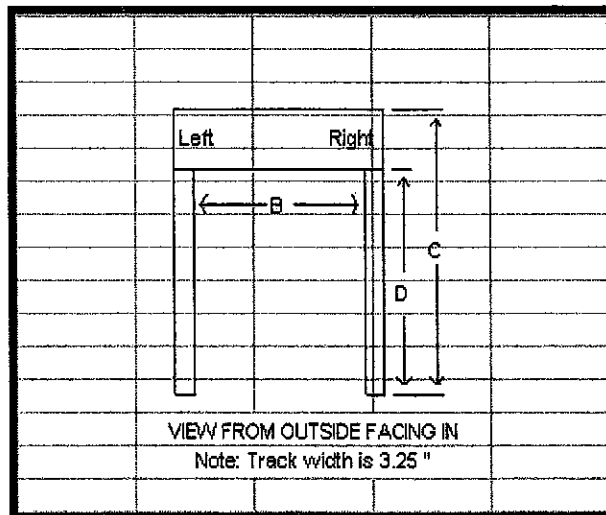

Figure 7: Rolling Screen End Cap Height Measurements
There are two methods to measure the height for ordering purposes. Look at the area above the opening to see if there is adequate space for the hood assembly. The size of the hood assembly, often referred to as the 'box', is determined by the height of the opening. A 6 ½" box will be used for openings up to 96" in height. An 8" box will be used for openings that are over 96" and less than 168" and a 10" box will be used if the opening height is 168" or greater. (Please see Figure 7 for illustration).
Track length requested method: Using this measure method, the system will be built using the "D" dimension from Figure 7. **Please note:** when the screen is not deployed (i.e. rolled up into the hood assembly) the bottom screen bar will rest a minimum of 3" below the top of the track. As an example, if the daylight opening height is 96" and you do not want the bottom screen bar to be visible from the inside, then the (D) dimension should be a minimum of 99".
Top of the shutter housing "box" to the bottom of the side track: This method is most used when the opening is "trapped" or "recessed". This method (Dimension C in Figure 7) will provide the complete finished height coverage area for the system including the box.